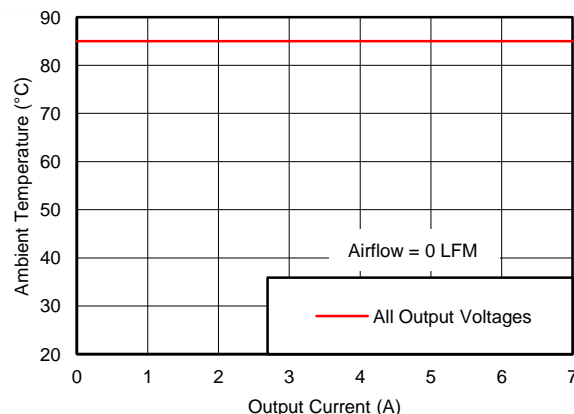

Figure 10. Safe Operating Area
- (2) The temperature derating curves represent the conditions at which internal components are at or below the manufacturer's maximum operating temperatures. Derating limits apply to devices soldered directly to a 100 mm × 100 mm, 4-layer PCB with 2 oz. copper. Applies to Figure 10.